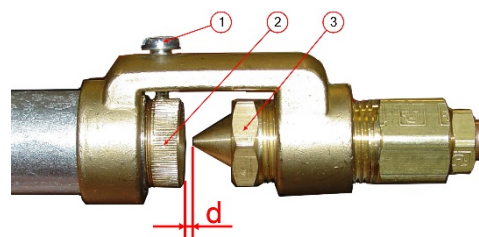

Fig. 9. bis
1. Loosen the locknut (Fig. 9.bis – Mark. 1)
4. Adjust the setting of the air ring (Fig. 9 bis. – Mark. 2) using the data in the table below.